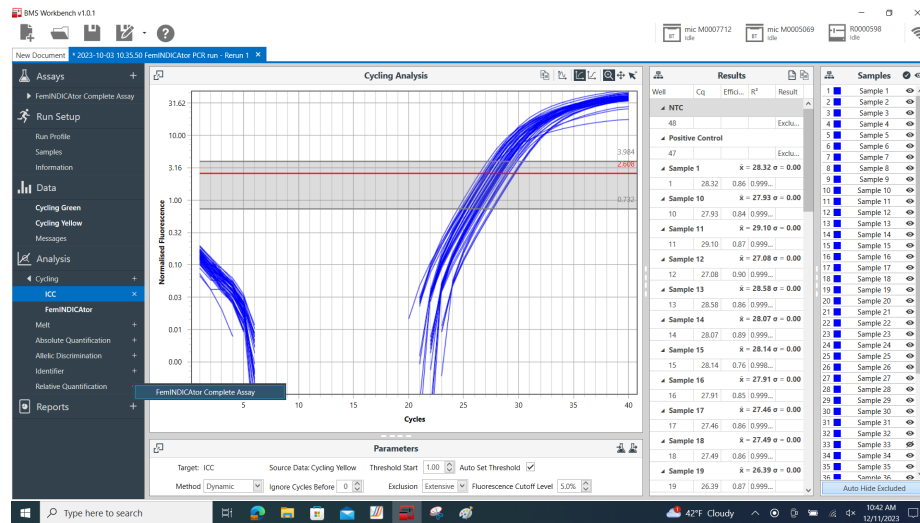

Figure 18: Select the Identifier Report
- If the automatic calls are blank, then one of the cycles is out of threshold. To fix this, find “Ignore Cycles Before” in the “Parameters” section, and increase the value one whole number at a time until a gray bar appears on the graph as seen in Figure 18. Repeat for all targets as necessary.